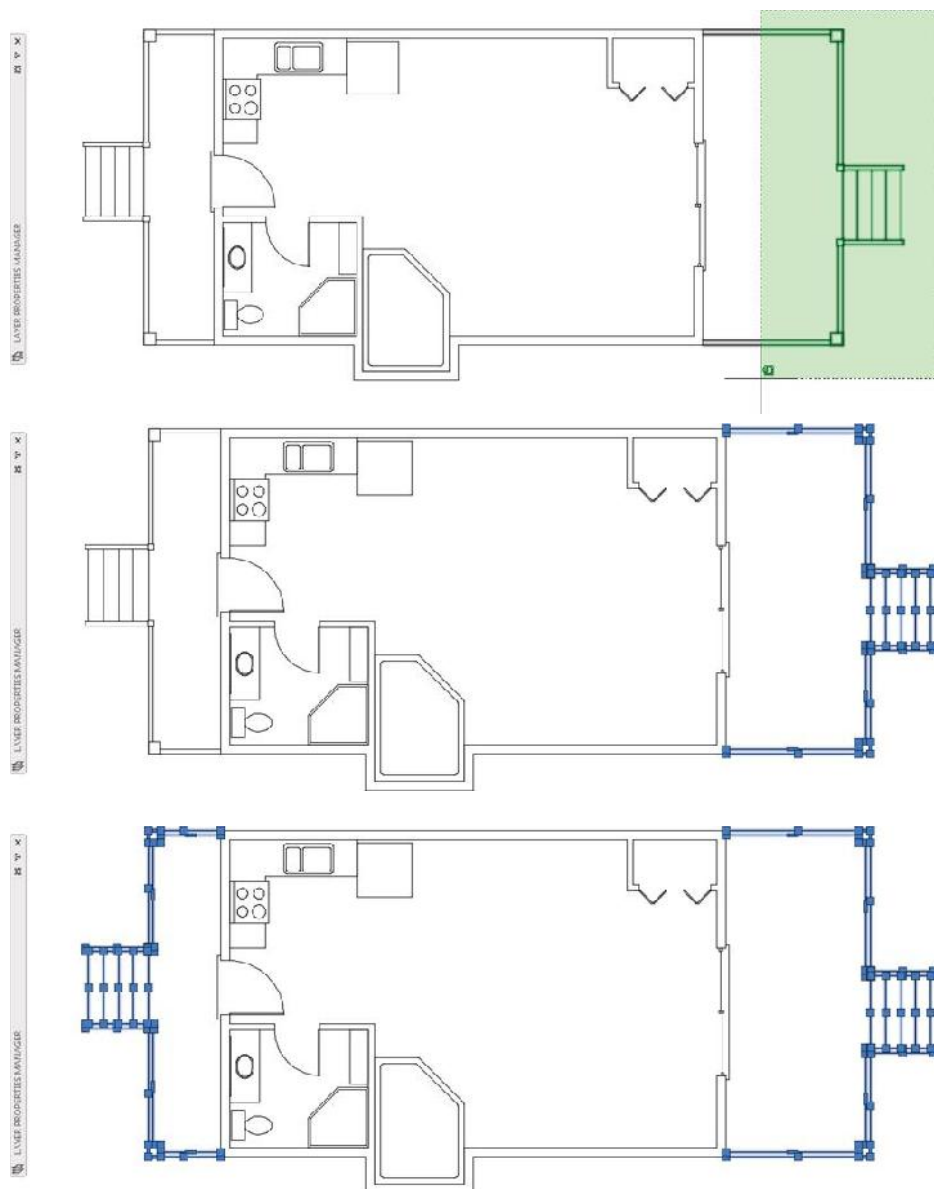

FIGURE 6.17: Selecting the front deck (top), deselecting the front stairs (middle), and the completed selection (bottom)
2. In the drawing, specify a selection window down and to the left to use a crossing selection window (a green box with dashed lines) that selects the front deck, as shown at the top of Figure 6.17.
3. Hold down the Shift key, and select the front stairs with a crossing selection, as shown in the middle image in Figure 6.17. The stair lines appear solid again.
4. Repeat the process on the rear deck so that the deck is selected but the back stairs are not. The selected components should look like the bottom image in Figure 6.17.